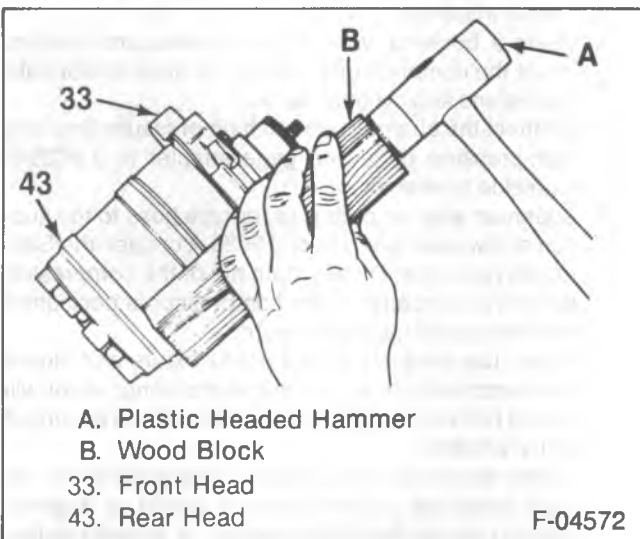

Figure 25—Tapping the Front or Rear Head Free of the Cylinder
7. Rear head (43), head gasket (42), rear valve plate (41), suction reed plate (40) and cylinder-to-rear head seal (39).
- Using a wood block, tap around the edge of the rear head to remove (figure 25).